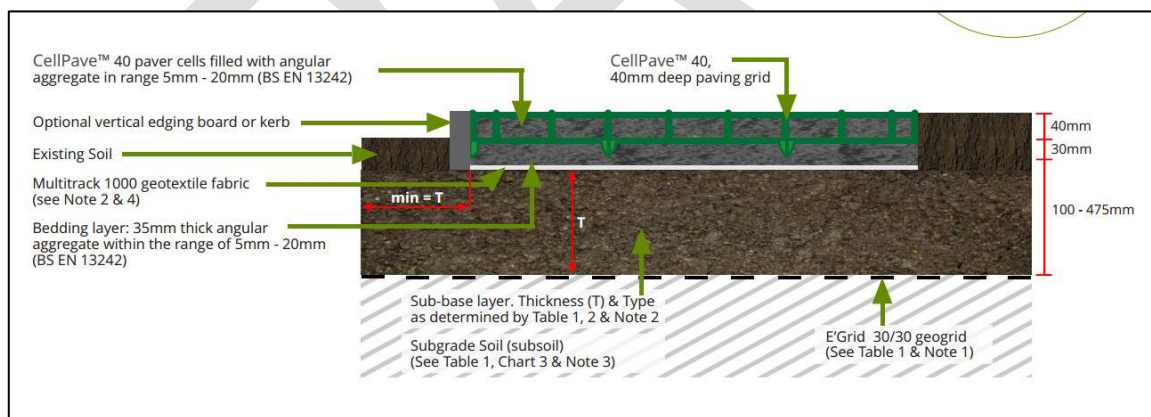

Figure 1: CellPave 40 Cross Section (Source: Groundtrax)
- 3.2 Groundtrax CellPave is an interlocking cellular paving grid system, which can be used for car parks, but is also safe for pedestrians to go over. The CellPave tiles would be laid down onto geotextile fabric, above a prepared sub-base (usually 250mm, but soil investigations would need to be undertaken to determine exact thickness) and a gravel in-fill used between the grid system. A typical cross section from an extract from Groundtrax CellPave 40 installation guide can be seen in **Figure 1 and Appendix C** below. This system would cost in the region of £200,000 to install.